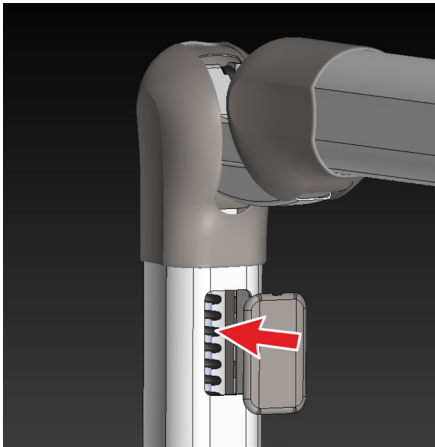
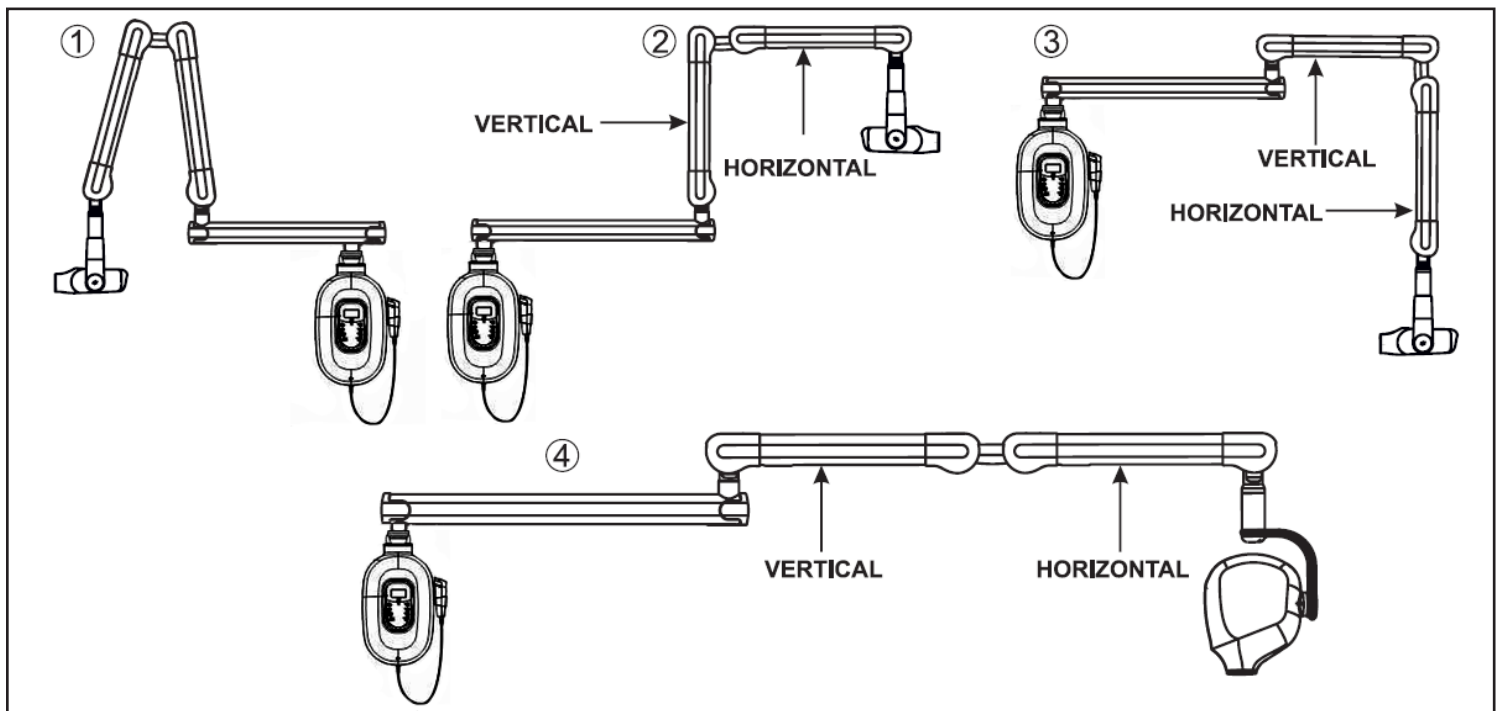

Figure 37
Figure 39: Scissor Arm movement check
- Remove the rectangular caps from the spring adjusting windows of the Scissor Arm as shown in Figure 37 .
- Keep vertical arm in vertical position and the horizontal arm in horizontal position as shown in the Figure 39 (illustration 2). The scissor arm should not droop from its position. If it droops, tighten the horizontal arm spring using screwdriver through the spring adjustment window (by tightening the slotted nut as shown in Figure 37).
- Keep the scissor arm with both arms vertical (folded /locked position) as shown in the Figure 39 (illustration 1). The Scissor Arm should stay in its locked position without moving or drifting. If unstable, replace the Scissor Arm.
- Keep the vertical arm in horizontal position and horizontal arm in vertical position as shown in the Figure 39 (illustration 3). Both the arms should stay in position without moving. In this position the horizontal arm is in locked position and no adjustments are required for the horizontal arm. If the vertical arm is unstable adjust the vertical arm spring by loosening (by loosening the slotted nut) using screwdriver through the spring adjustment window as shown in Figure 37 .
- If it droops, tighten the vertical arm spring using screwdriver through the spring adjustment window (by tightening the slotted nut as shown in Figure 37). Once it reaches Step 3 position, if the Vertical arm moves up (unstable) then adjust the vertical arm spring by loosening (by loosening the slotted nut as shown in Figure 37) using screwdriver through the spring adjustment window. Repeat the "Movement Check-1" procedure to reconfirm or fine tune adjustments.
- Move the scissor arm very slowly in small increments from step 3 to fully expanded position as shown in illustration 4 of Figure 39 . The scissor arm should stay stable at all positions. If unstable, Scissor Arm need to be replaced.